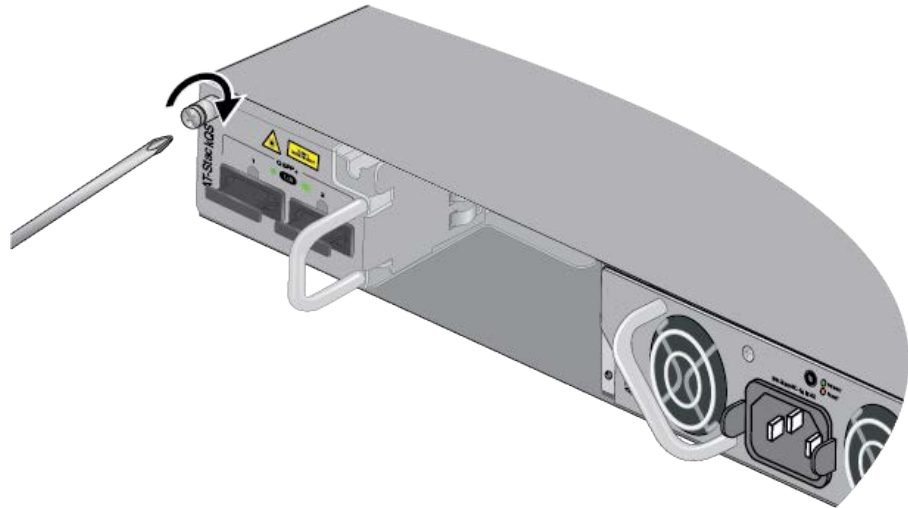

Figure 37. Tightening the Captive Screw on the Card
10. Tighten the captive screw to secure the card in the switch. Refer to Figure 37.